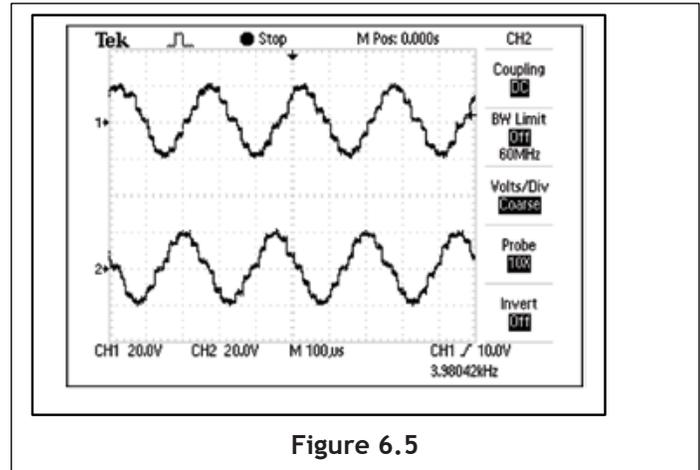

Figure 6.5
6. Compare waveform on scope to **Figure 6.5**.
8. Verify that the amplitude displayed below timer drops to zero (0).
1. Waveform is the same between scope and **Figure 6.5**, amplitude dropped to zero when paused and "Paused" displayed below timer. Unit passed test.